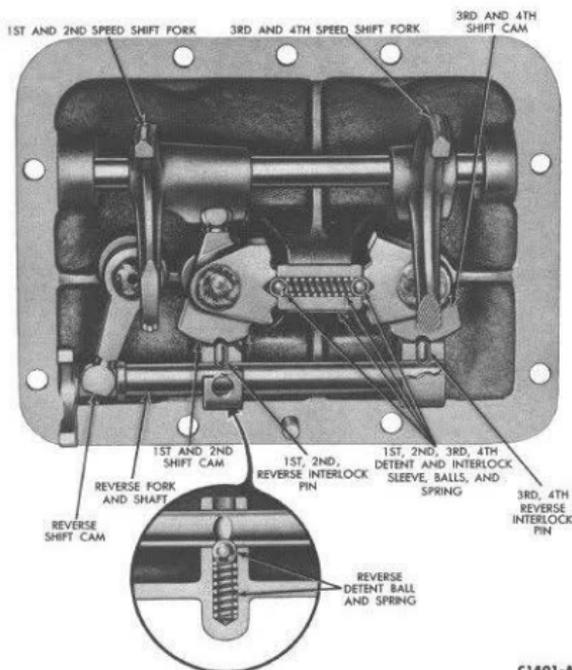

FIG. 63—Transmission Shift Mechanism Details
4. Rotate the reverse fork and shaft assembly to disengage the detent ball and remove the fork and shaft (Fig. 63). Hold a cloth over the shaft cover boss nearest to the fork to catch the detent ball and spring when the shaft clears the boss hole.